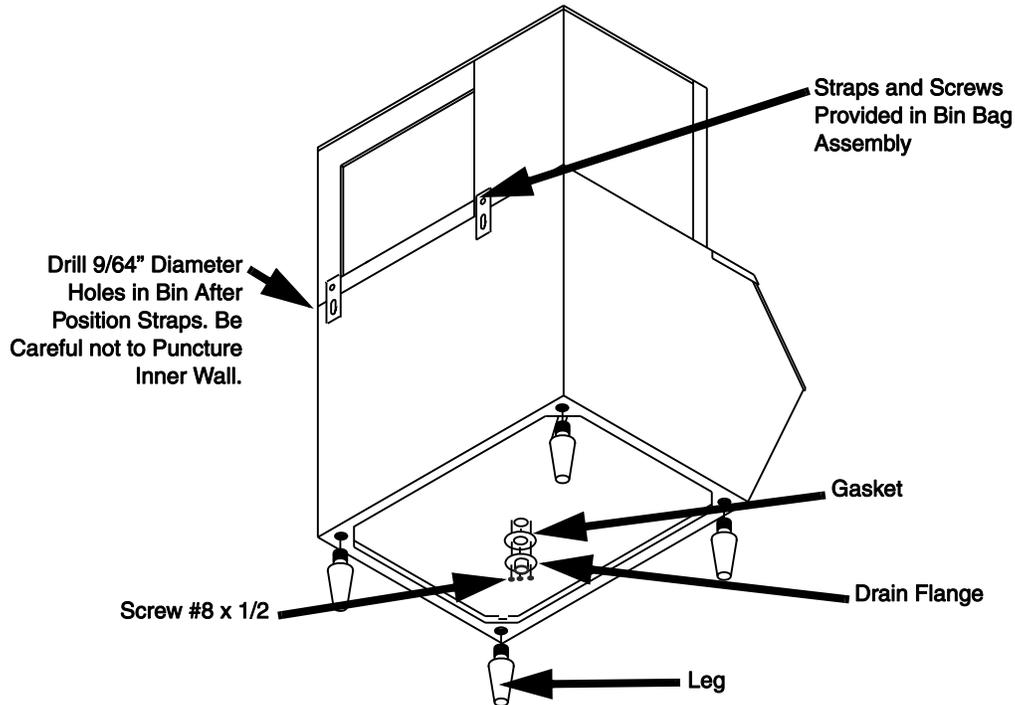

Figure 1
- Once the pilot holes are drilled attach using the #14 screws. Carefully drive the screws into the bin. Do not strip the holes. This is a U.L. requirement and the responsibility of the installer (See Figure 1).